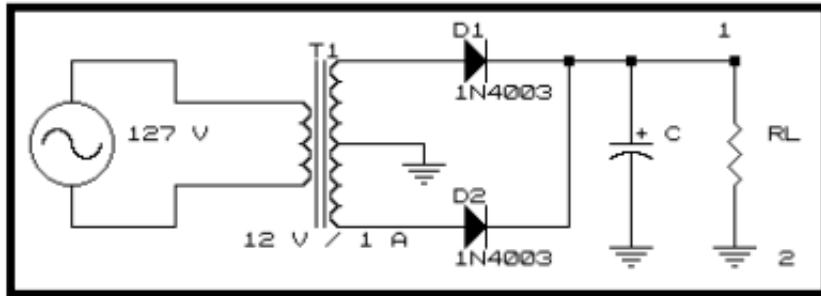

Figure 3.5.0: Full-wave rectifier circuit with filter.
Once the circuit it's armed using the  $100\Omega$  **resistor** as  $R_L$  we will measure with the voltmeter the **Voltage** and **Current** in this component. According to the Figure 3.5.0, we will connect the Positive terminal of the voltmeter in the terminal 1 of Figure 3.5.0 and the Negative terminal of the voltmeter in the terminal 2 of Figure 3.5.0, we will call this voltage  $V_0$  for the current  $I_0$  we can use **Ohm's Law**:
Table 4: Measured values of Figure 3.5.0.
The small unwanted residual periodic variation of the direct current (DC) output of a power supply which has been derived from an alternating current (AC) source it's called **Ripple**. To measure the **ripple voltage**  $\Delta V$  it's necessary to connect the **oscilloscope terminals** in the terminals 1 and 2 of the Figure 3.5.0 in the option of AC.
Table 5: Ripple Voltage of Figure 3.5.0.